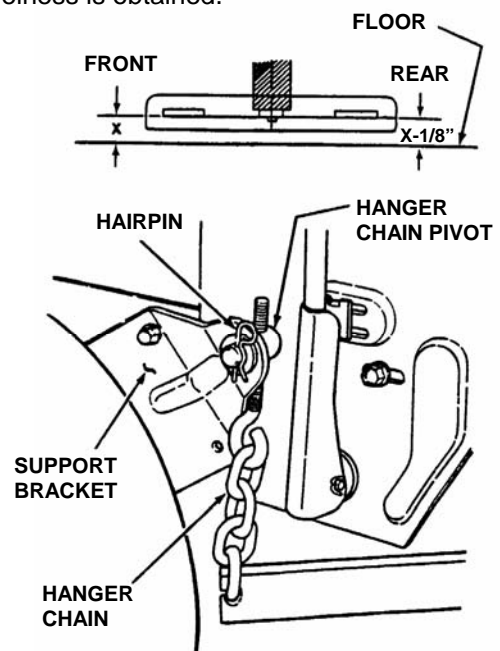

FIGURE 4.4
9. Readjust rear hanger chain pivots to align with holes in support brackets. See Figure 4.4.
2. Turn each hanger pivot the same number of rotations on the eye-bolt to raise or lower the rear of the deck. See Figure 4.4.